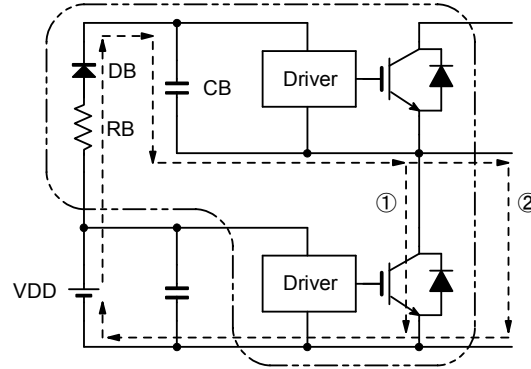

Figure 19. Boot strap circuit
The VBx pins are internally connected to the positive supply of the high-side drivers. The supply needs to be floating and electrically isolated. The boot-strap circuit shown in Figure 19 forms this power supply individually for every phase. Due to integrated boot resistor and diode (RB & DB) only an external boot capacitor (CB) is required. There are two current path to charge CB – depicted as ① and ②.
① when the low side power IGBT is ON
② when motor current is flows in CB